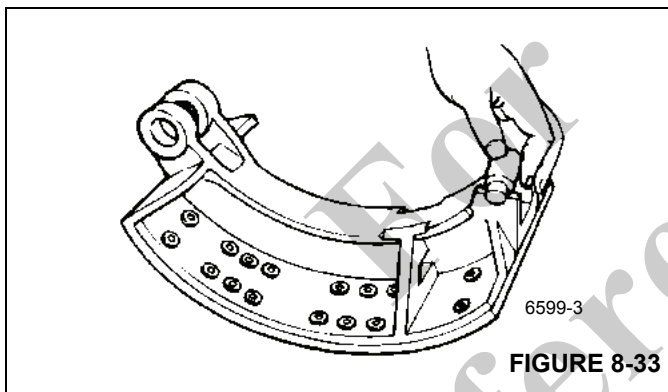

FIGURE 8-33
4. Use a brass drift to remove the bottom anchor pin. Remove the bottom shoe. If necessary, remove the rollers (Figure 8-33).